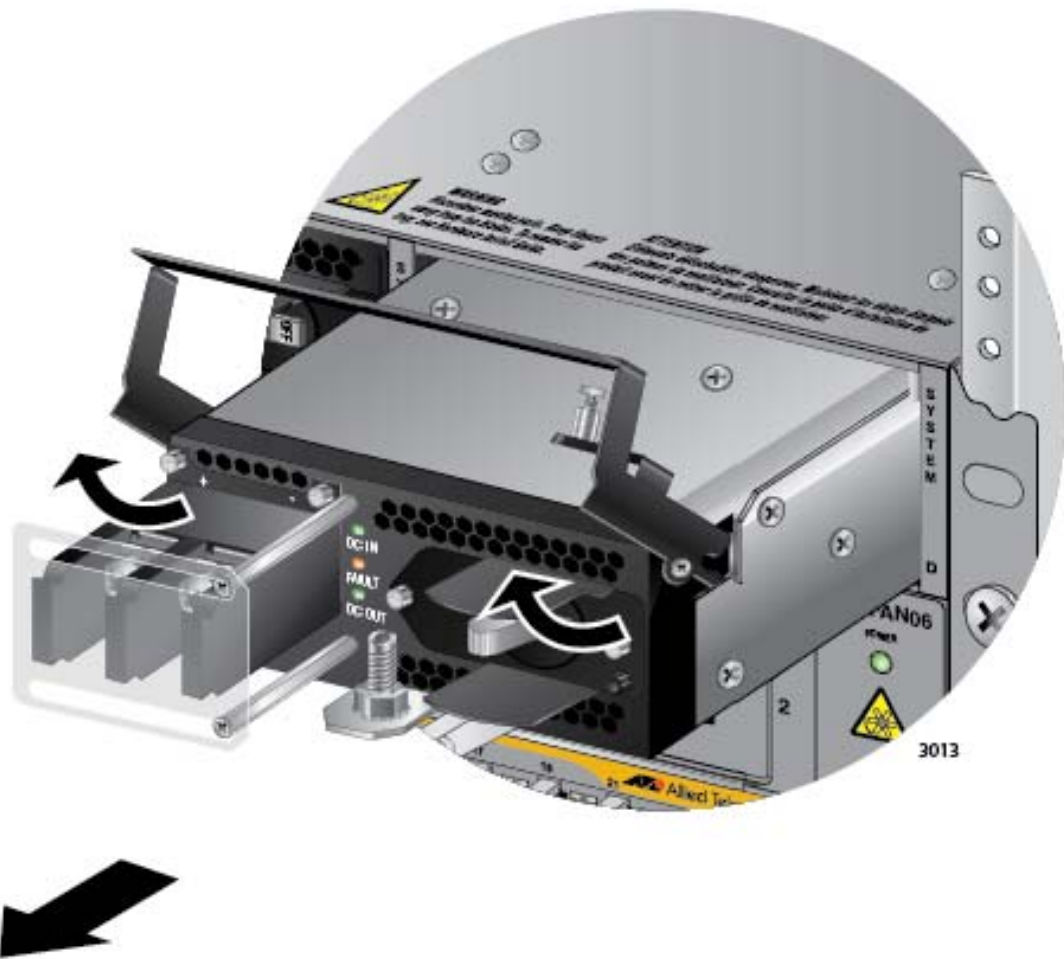

Figure 144. Lifting the Locking Handle and Removing the Power Supply
11. Lift the locking handle and slide the power supply from the chassis. Refer to Figure 144 on page 228.